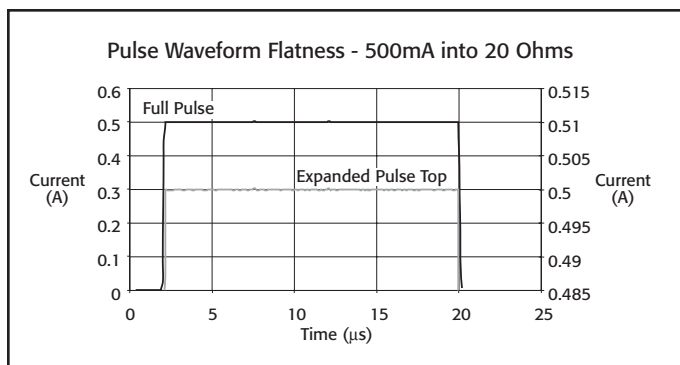

Figure 1
- Figures 1 and 2 are typical pulse outputs into resistive loads.